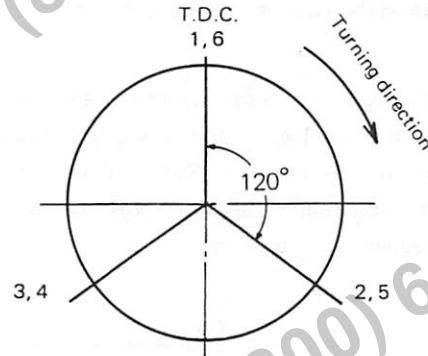

Fig. 3-2-51 Firing order
- (4) Turning the crankshaft (crank pulley) clockwise by 120°. Adjust the valve clearance for each cylinder in the firing order (1-4-2-6-3-5), as shown in Fig. 3-2-51.